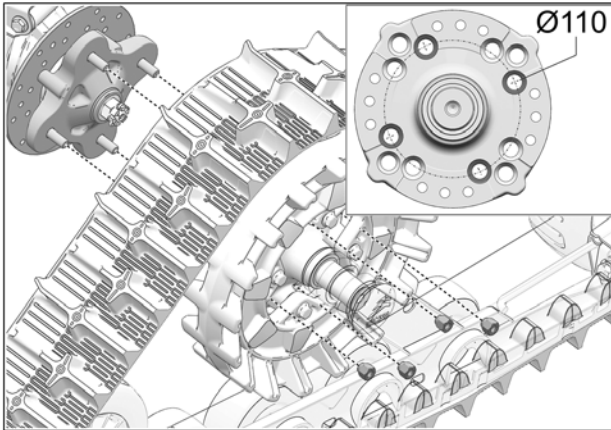

Fig. 10
9. Secure undercarriage to rear hub using the vehicle's own lug nuts. Use bolt circle $\text{Ø}110$ mm. See Fig. 10